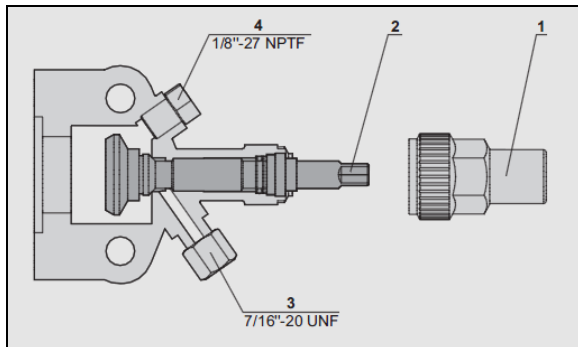

FIGURE 80: COMPRESSOR SHUT-OFF VALVE BACKSEATED POSITION (NORMAL OPERATING POSITION)
4. Backseat the compressor suction shutoff valve (FIGURE 80).
13. Shut down engine and backseat suction and discharge shutoff valves (FIGURE 80).
2. Backseat (stem out) the two compressor shutoff valves (FIGURE 80).
3. Install A/C pressure gauges at the compressor shutoff valves service ports (item 4, FIGURE 80).